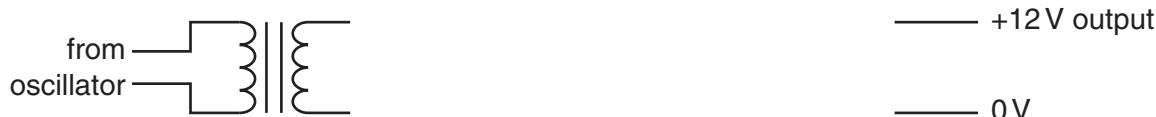

Fig. 3.2
- (c) Complete Fig. 3.2 by drawing the circuit diagram of the rectifier and smoother part of the switched-mode power supply.